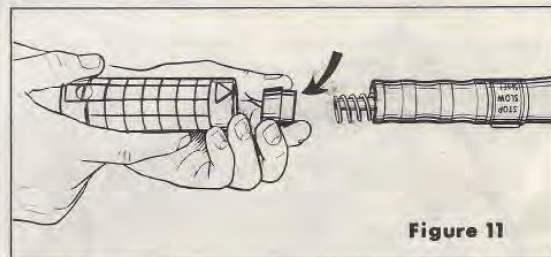

Figure 11
1. The speed control grip on the steering handle (where used) is provided with a pressure plug to prevent "creeping" for operation without remote control. However, when making the remote control installation, this plug (indicated by arrow on Figure 11) should be removed for easier speed control. Loosen screw in speed control grip and slide grip off handle, being careful of spring tension. Remove plug and replace spring, grip and screw.